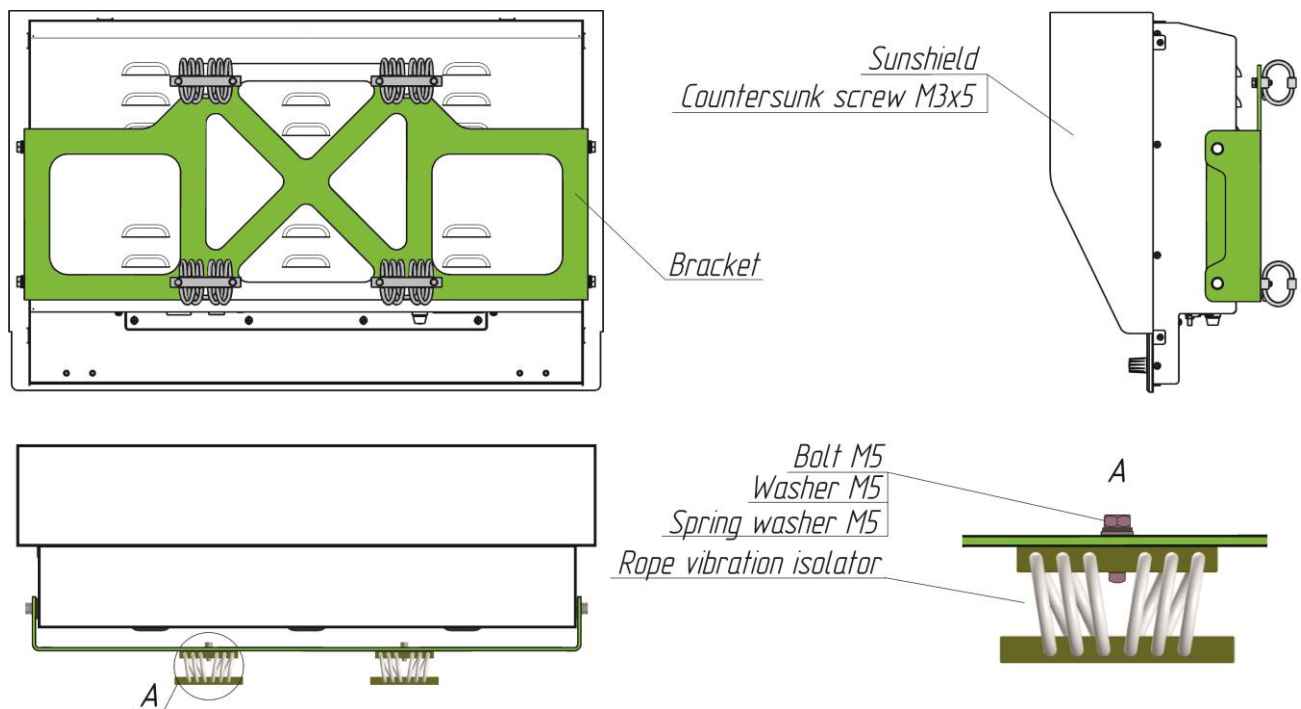

Figure 7 – Wall mounting
6) Wall mounting with a non-adjustable bracket (see Figure 7) ensures mounting on a surface using brackets and a mounting kit of metal ware.